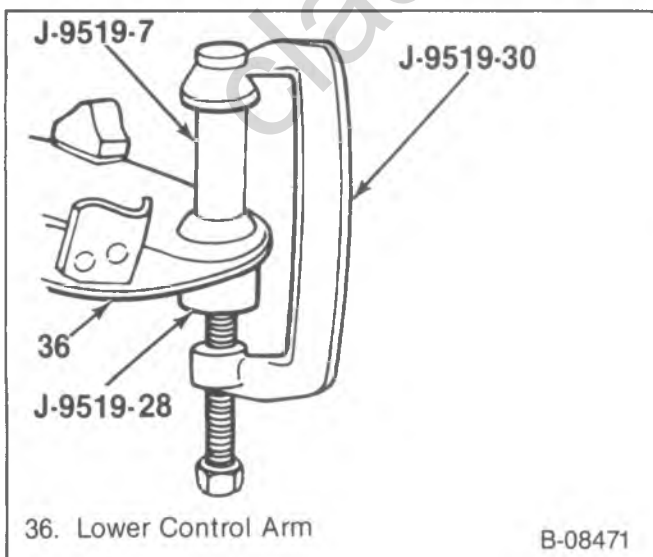

Figure 19—Removing the Lower Ball Joint
- Extend J-23742 until the lower ball joint (37) breaks free from the steering knuckle (31).
- Remove the nut (35) and J-23742.
3. Hub/rotor (70) and the knuckle assembly off the lower ball joint (37).
- Install J-21474-13, J-9519-7, J-9519-28, and J-9519-30 (figure 19).
4. Ball joint (37) from the lower control arm (36).
- Install J-21474-13, J-9519-22, J-9519-16, and J-9519-10 (figure 19).
- Remove the tools and the ball joint (37).